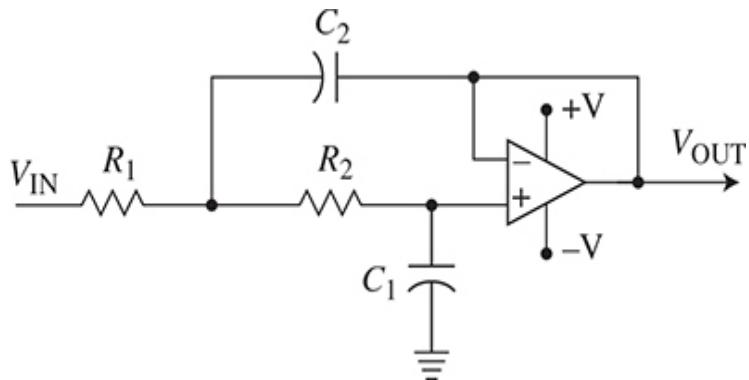

Figure 9.14 Active RC low-pass filter using a single-supply op amp.
- The single-supply low-pass circuit is given in Fig. 9.14. You probably want to block the dc from the input and output. The coupling capacitors C_{IN} and C_{OUT} should be about 100 to 1000 times C_1 . This would be a value of 1 μF to 10 μF .